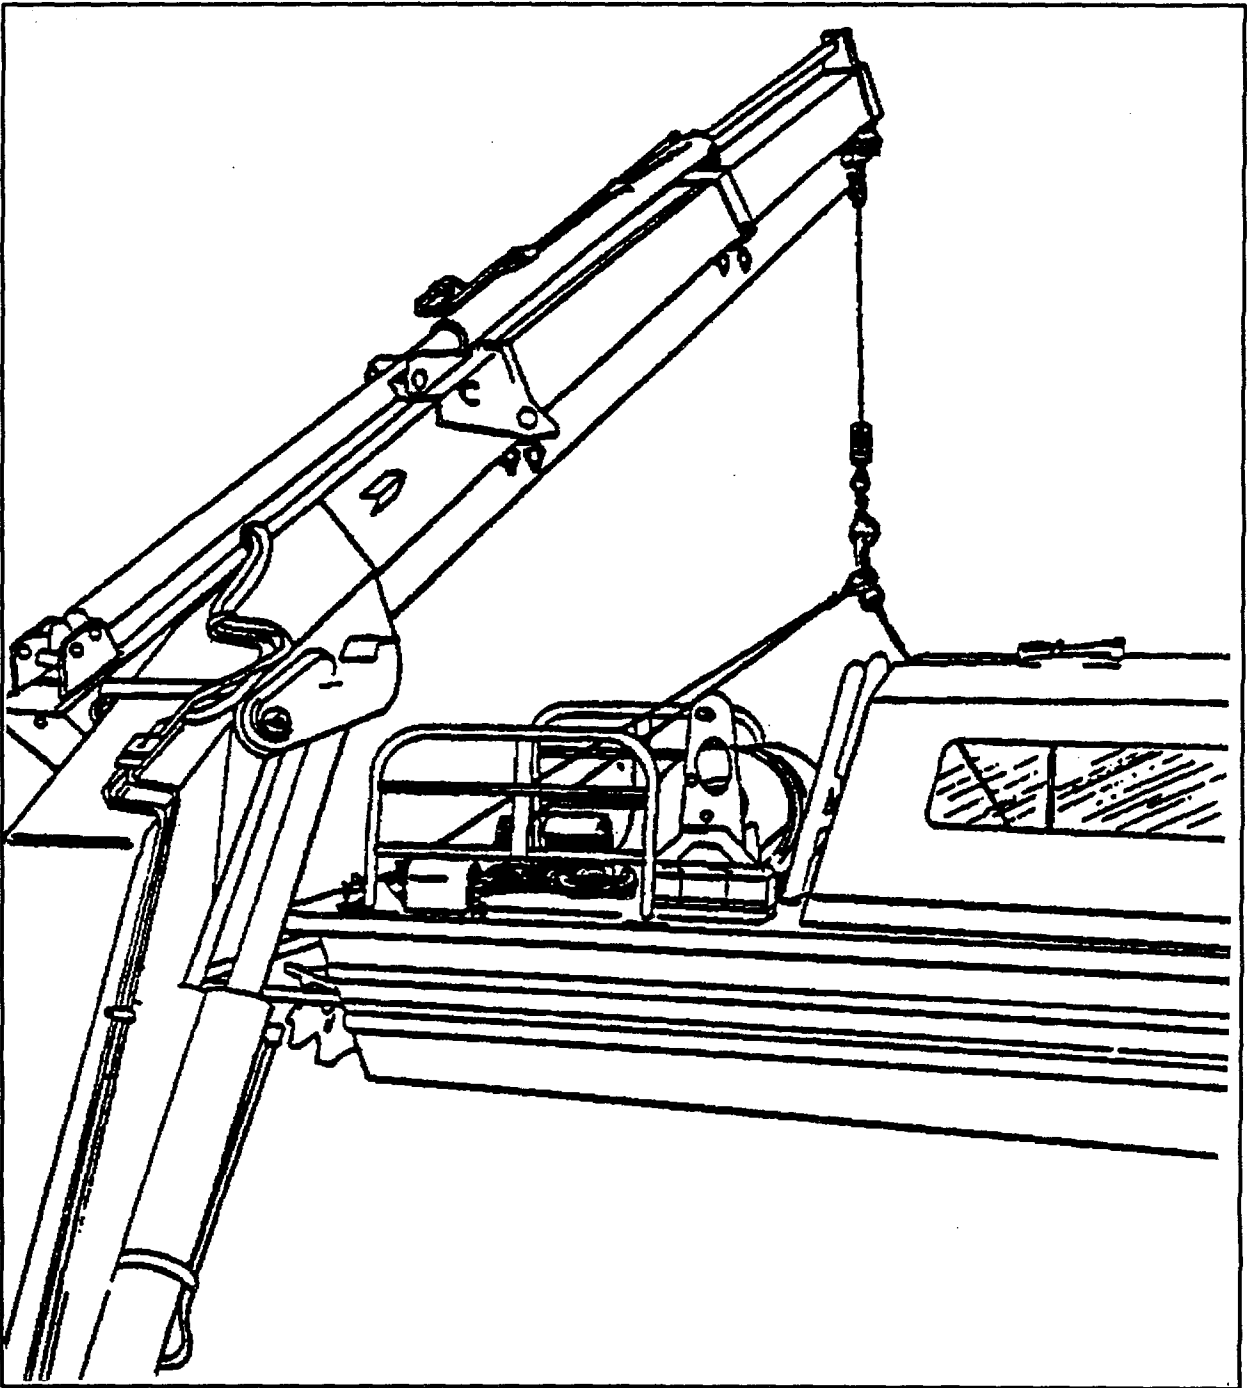

Figure 2-15. Bow Crane Lifts Workboat with Three-Point Suspension Harness
- i. Lift boat vertically to clear all items on deckhouse top and slew crane in a counterclockwise direction to move boat over starboard side. Keep control lines tight (see Figure 2-15).